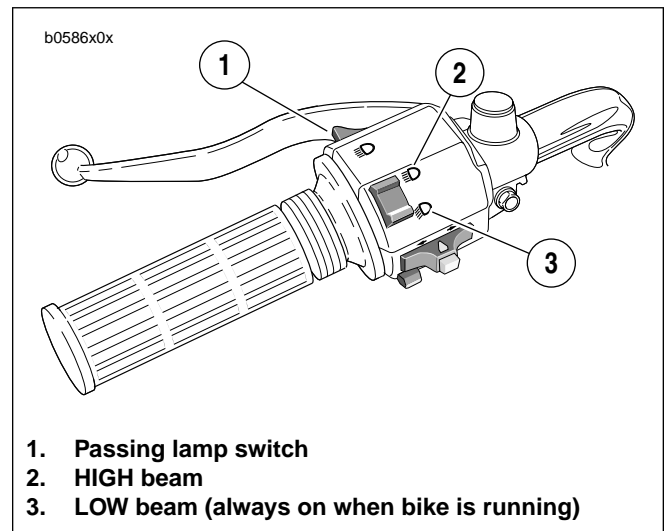

Figure 7-48. Headlight Controls
6. See Figure 7-48. Check headlight for proper operation. If operation fails, reread procedure and verify that all steps were performed.
- b. Check headlight LOW (3) and HIGH beam (2) settings.
- c. Set headlight to LOW beam. Press passing lamp switch (1). Headlight should flash HIGH beam for as long as the switch is pressed.